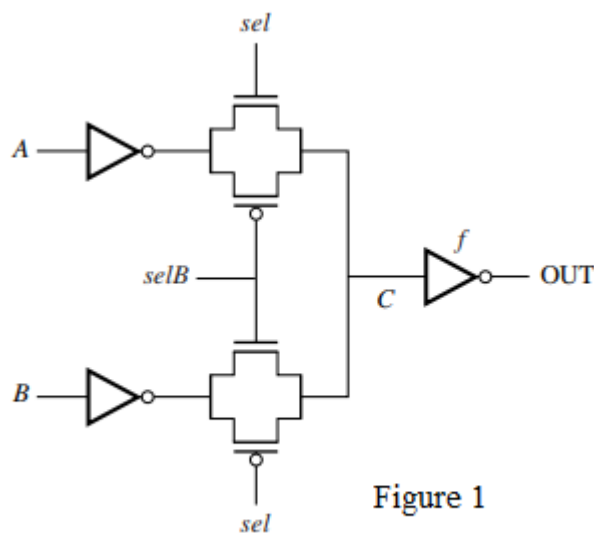

Figure 1
3. For the circuit shown in Figure 1, assume that the transmission gates are all $4\lambda:2\lambda$ and that the inverters driving the transmission gates have PMOS transistors that are $8\lambda:2\lambda$ and NMOS transistors that are $4\lambda:2\lambda$, where $\lambda = 0.1\mu\text{m}$. The output inverter drive a 50 fF load. The output inverter is f times larger than the input inverters. Answer the following questions (15 points)